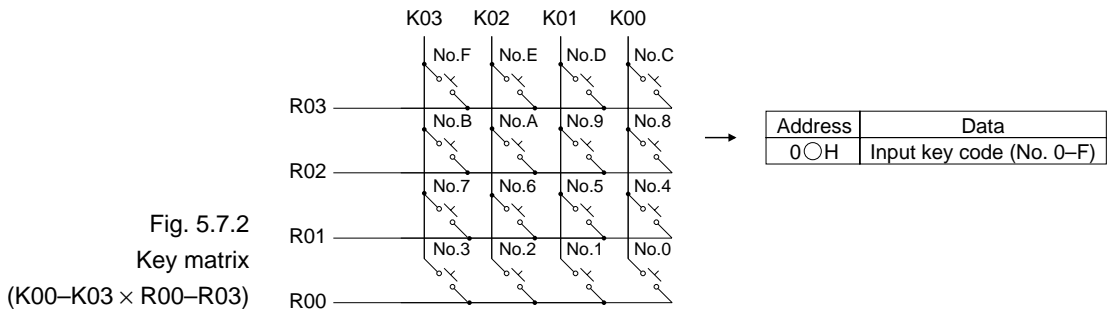

Fig. 5.7.2
**(6) Key matrix (K00–K03 × R00–R03) processing**
**Specifications** This is the interrupt routine "IK0" which specifies the high input key from the key matrix shown in Figure 5.7.2 and converts it to the key code.